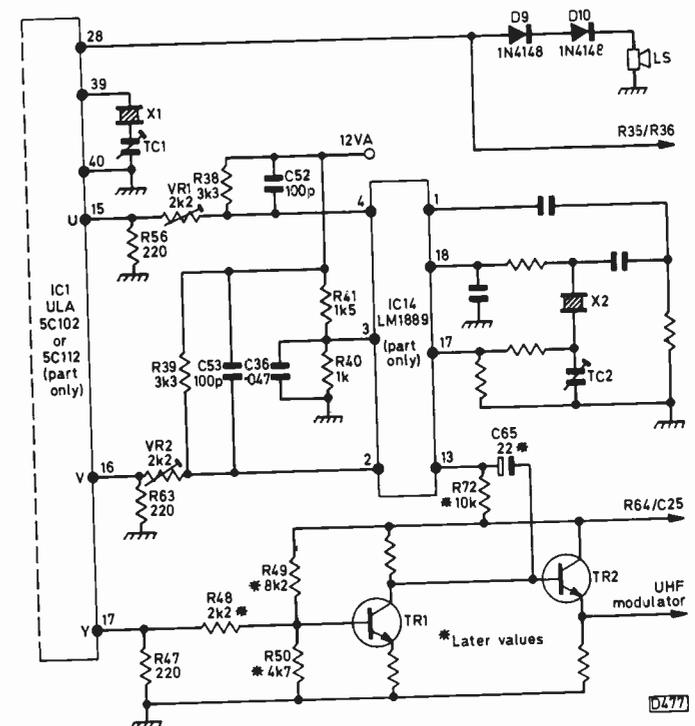

Fig. 11: Circuit variations around IC1/IC14 in earlier versions - compare with Figs. 1 and 5.
(1) Replace all disc ceramic capacitors with axial ones. Especially change C41 and C49 (47nF) – as with issue 1 boards – and change C43 (100nF) in the voltage generator circuit. This, together with modification (3) below, will update the circuit almost to issue 3 standard.
(2) To improve the colour, change R48 to 2.2k Ω , R49 to 8.2k Ω , R50 to 4.7k Ω , R72 to 10k Ω and C65 to 22 μ F. These components are all associated with the luminance/chrominance drives to TR1 and TR2 (see Fig. 11).
(3) Carry out the same modifications as those listed under (6) and (7) for issue 1 boards.
(4) The only currently available ULA is type 6C001. When this is used to replace an earlier type the following modifications should be made: change R47 to 1k Ω , R49 to 10k Ω and R56 and R63 to 470 Ω .
(5) There's no need to change the speaker circuit from
that shown in Fig. 5 to that shown in Fig. 11. The modification is very simple however if increased sound output is required.